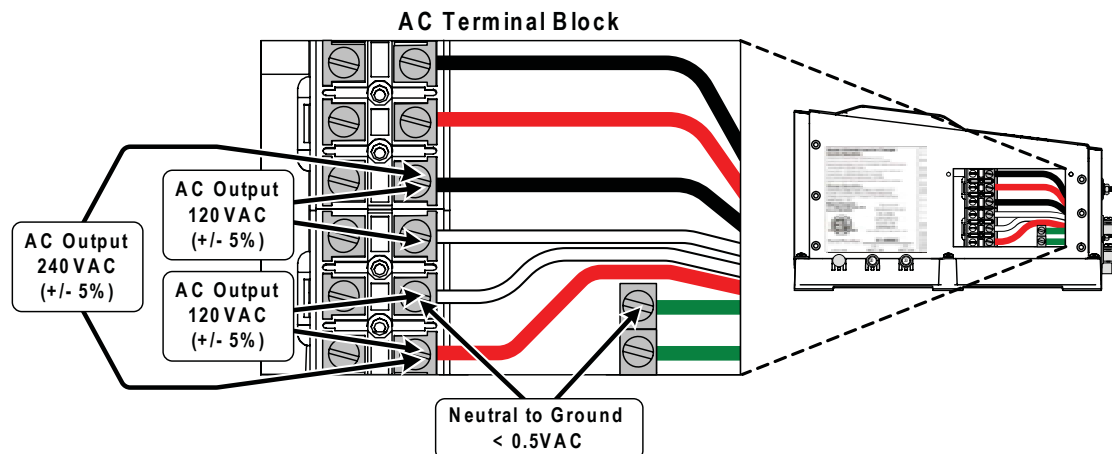

Figure 2-15, AC Voltage Checks
6. Check the AC output voltage of the inverter by connecting an AC voltmeter to the output terminals as shown in figure 2-15 and verify the correct output voltages.